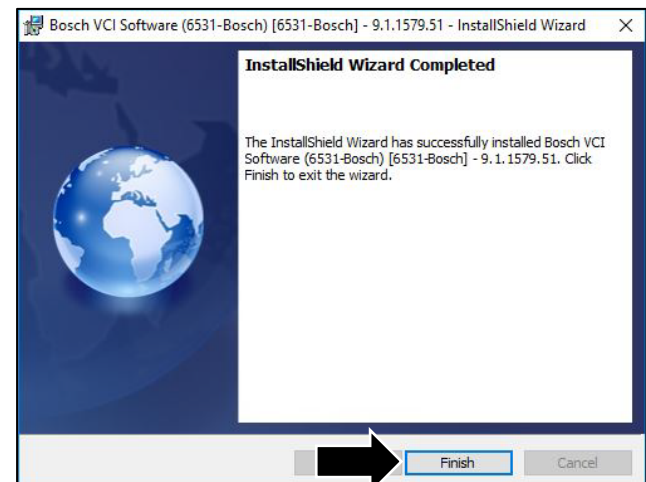

Figure 6
7. Wait for the installation to complete then click "Finish" (refer to Figure 6).